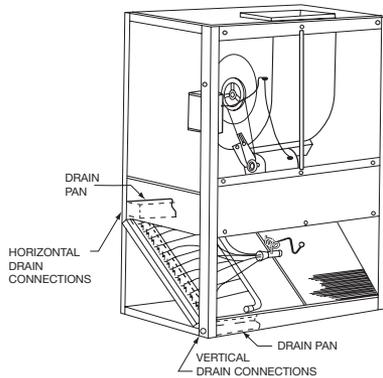

Figure 5
**Important: All air handlers are shipped with the drain pan installed in the horizontal position and the connection on the right side (as shown in figure 5). If an alternate position is required, the drain pan should be repositioned before setting the air handler.**
Step1. Remove the access plate at the opposite end of the drain connection. This plate secures and lifts the back end of the drain pan for sloping. It must be removed before the drain pan can be removed. This is done as follows: (A) remove the screw, (B) lift the access plate up, (C) pull the plate out. If the drain pan is to be moved to the vertical position also remove the other two access plates.